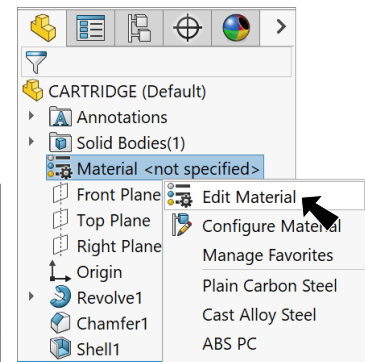

Fig. 15
Step 1. Right click **Material**  in the Feature Manager and click **Edit Material**, Fig. 15.